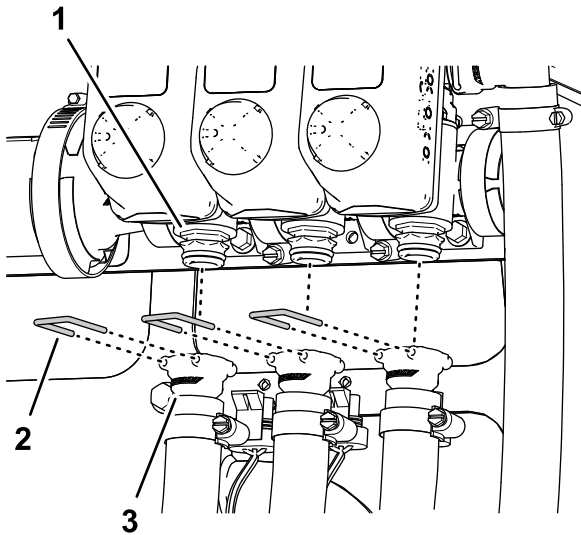

Figure 37
6. Remove the retainers that secure the quick couplers of the left, center, and right supply hoses from the quick couplers if the spray-section valves (Figure 37).
7. Remove the left, center, and right section-supply hoses from the quick couplers of the spray-section valves, and remove the hoses from the machine (Figure 37).